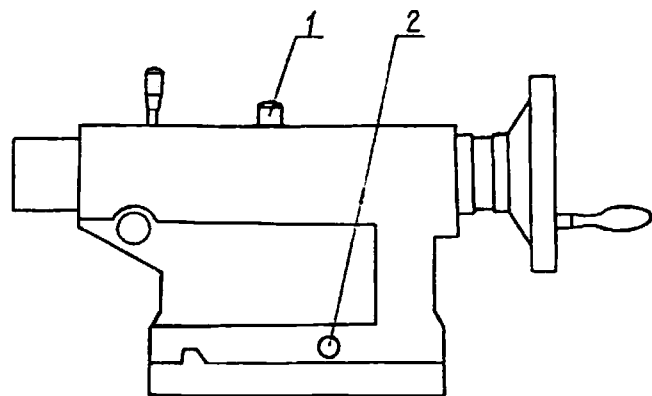

Fig: 8
1. Lock tailstock in position by raising clamping lever (1, Fig. 8)
2. Alternately loosen and tighten front and rear setscrews (2, Fig. 8)
3. Tighten both set screws (2, Fig. 8)